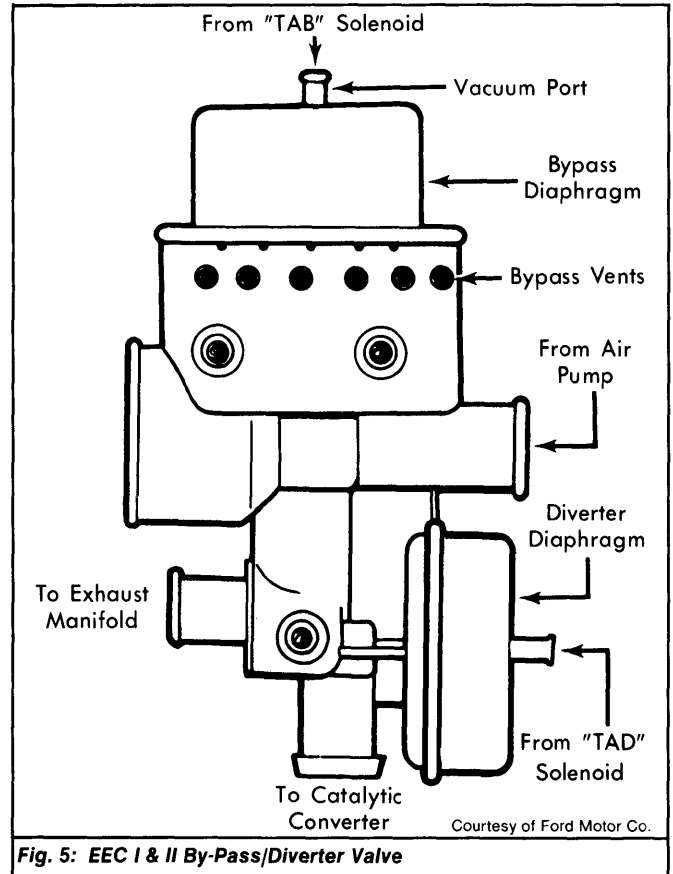

Fig. 5: EEC I & II By-Pass/Diverter Valve
2) Using 0-25 in. Hg gauge(s) and vacuum "T", tee into vacuum line between air by-pass/diverter and Thermactor Air Solenoid on EEC I or by-pass valve-to-solenoid (TAB) line and diverter valve-to-solenoid (TAD) line on EEC II. See Fig. 5.